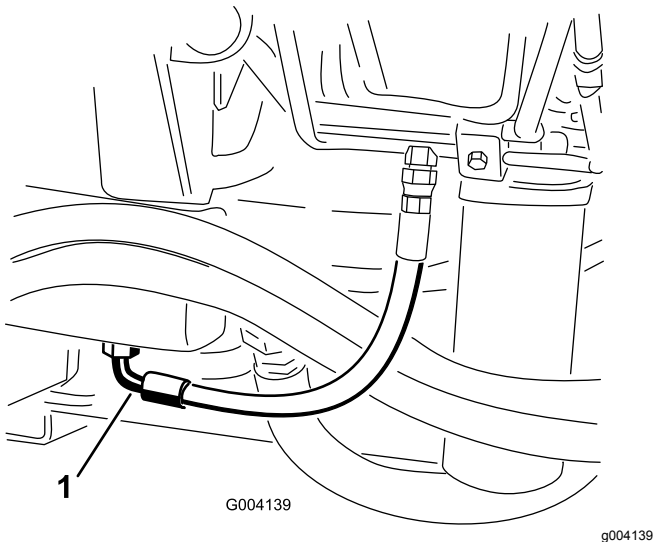

Figure 89
2. Place a large drain pan under the fitting secured to the bottom of the hydraulic-fluid reservoir (Figure 89).